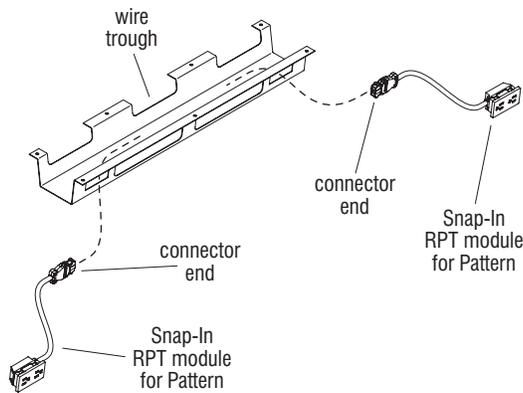

Figure 7
1. Route the connector end of each Snap-In module in through the rectangular-shaped module mounting holes on the wire trough as illustrated, routing the connector ends toward the middle of the trough, then snap the module receptacles into position (Figure 7 & Details T & U).